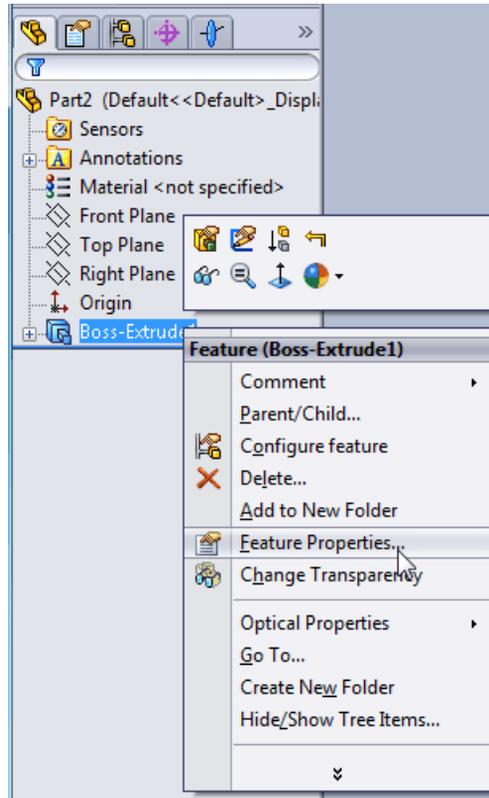

Figure 47 Right-clicking Boss-Extrude, Feature Properties on the FeatureManager, to open the Feature Properties dialog box
- 17 Right-click the **Boss-Extrude** node on the FeatureManager tree, and click **Feature Properties**. See Figure 47.